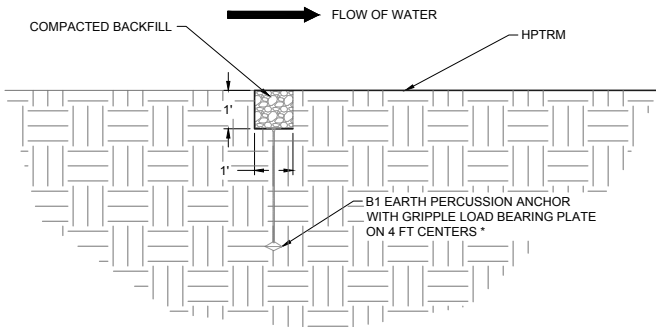

FIGURE 11: TERMINAL CHANNEL ANCHOR TRENCH (UPSTREAM) DETAIL
- Excavate Terminal Channel (TC) Anchor Trench 12 in wide x 12 in deep (300 x 300 mm) minimum across the channel at the upstream end of the project (see Figure 11). Deeper terminal trench and/or hard armoring may be required in channels that have the potential for scour.
- Place the HPTRM roll edge into TC Anchor Trench. Secure HPTRM roll edge in TC Anchor Trench with Gripple Earth Percussion Anchors on 4 ft (1.2 m) centers (see Figure 11).